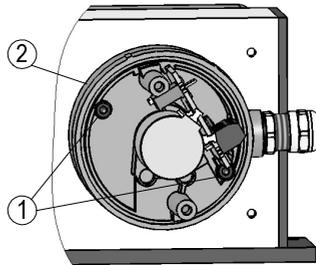

Fig. 13: Changing the position of the cable or connector outlet
- **Slightly** loosen the two Allen screws (1) (see fig. 13).
- Now you can rotate the drive's housing (2), ~220° counter-clockwise and ~90° clockwise.
- Tighten the Allen screws (1), put the hood on the device and close it.